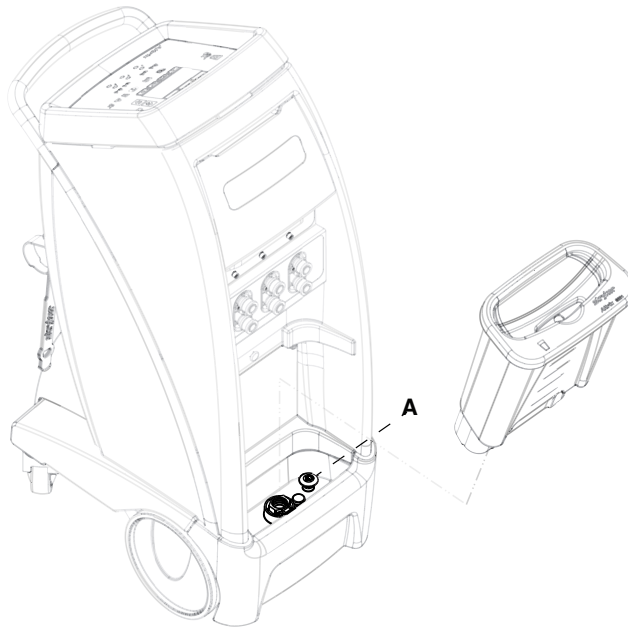

Figure 49 – Drain plug
2. Remove the reservoir and pull up on the controller drain plug (A) to open the drain (Figure 49).